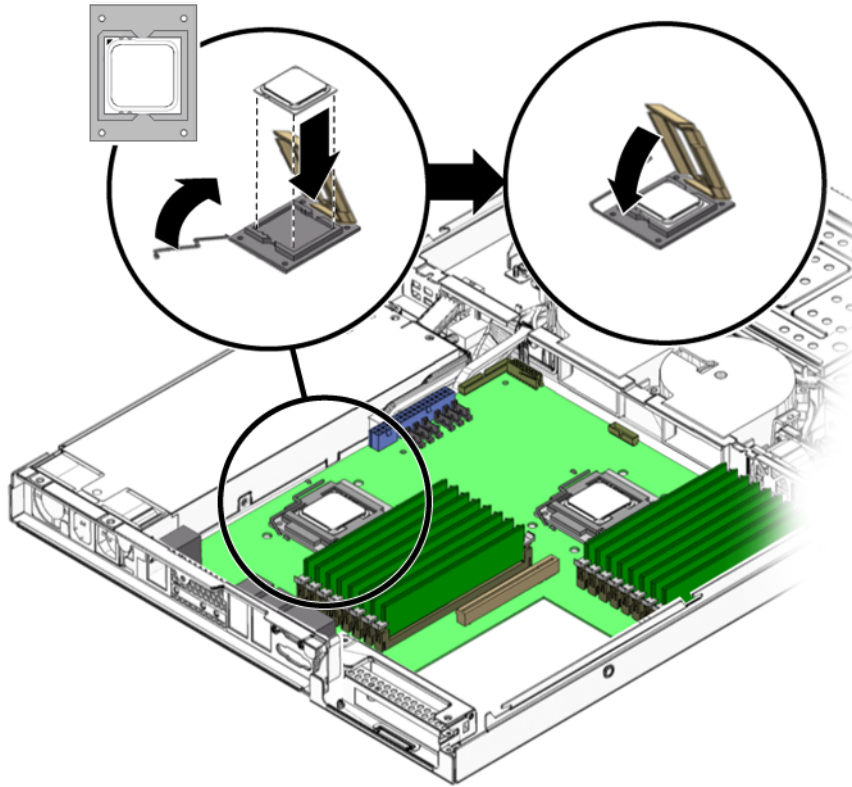

FIGURE 4-31 Installing the CPU
3. Ensure that the socket release lever is in the fully open, perpendicular position and the CPU cover is open (see FIGURE 4-31).